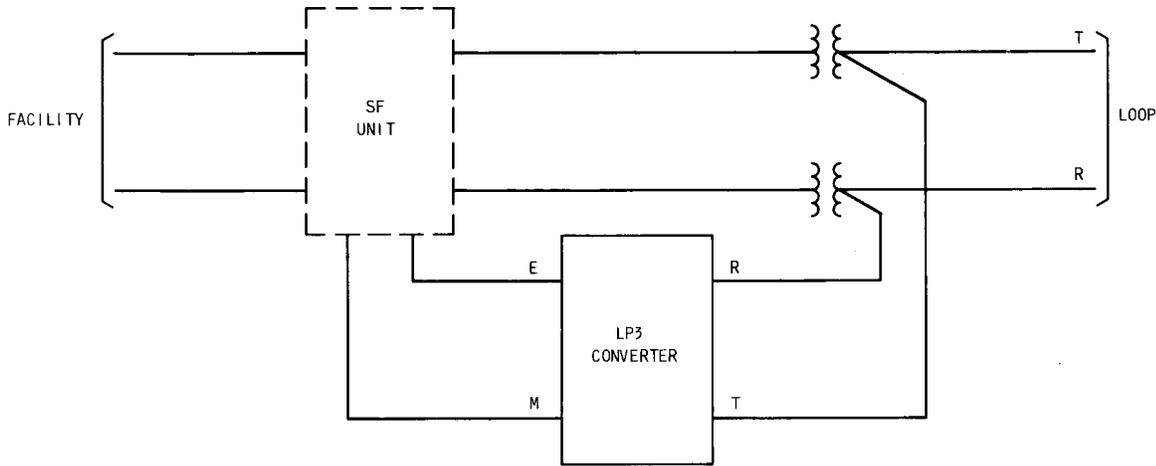

Fig. 6-14—LP3 Loop Converter Shown in Typical Application with SF Unit
**6.29 Description:** The LP3 loop converter (Fig. 6-14) converts E & M Lead signaling to loop signaling. The LP3 is used primarily at the incoming end of a one way dial repeating or one-way automatic tie trunk (SD-1A166-01 typically). An E#B or F type SF unit is normally on the facility side of the circuit.